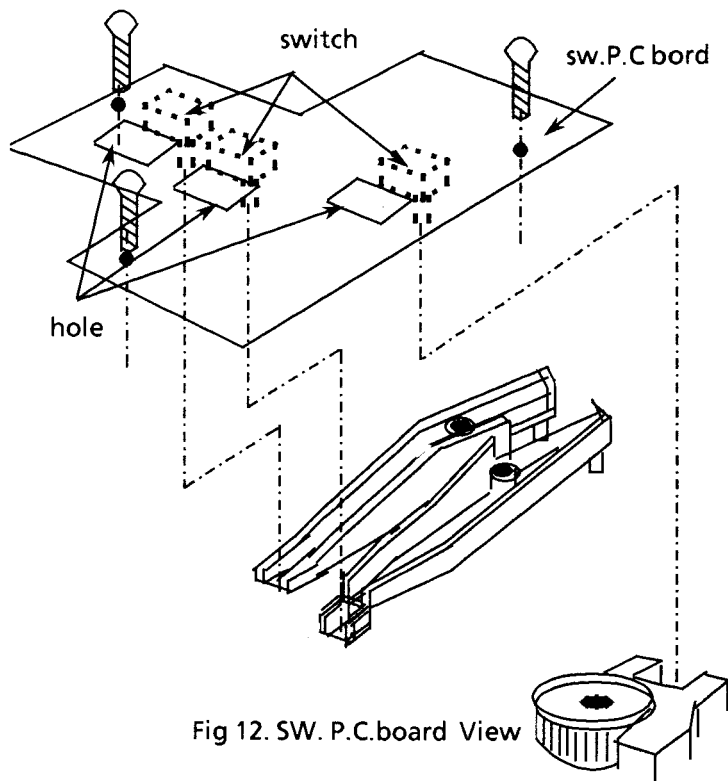

Fig 12. SW. P.C.board View
2. Install the circuit board so that the lever of the switches meet the groove of the switches levers(fig 12) .